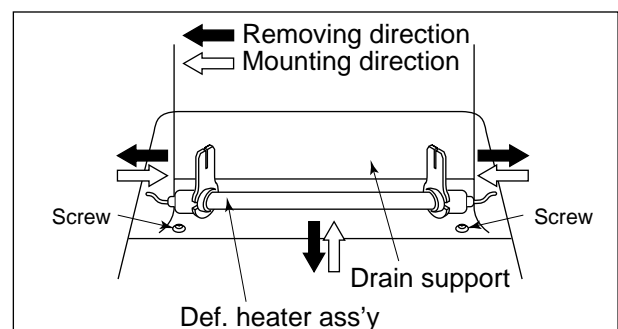

Fig. A-27
3. Open Def. heater fixed part of Drain support (Fig. A-27) to the right and left, then remove Def. heater ass'y.